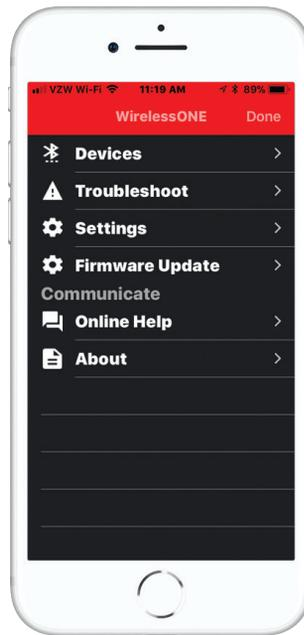

fig. C.3
1. The Settings screen (Fig. C.3) has these options: